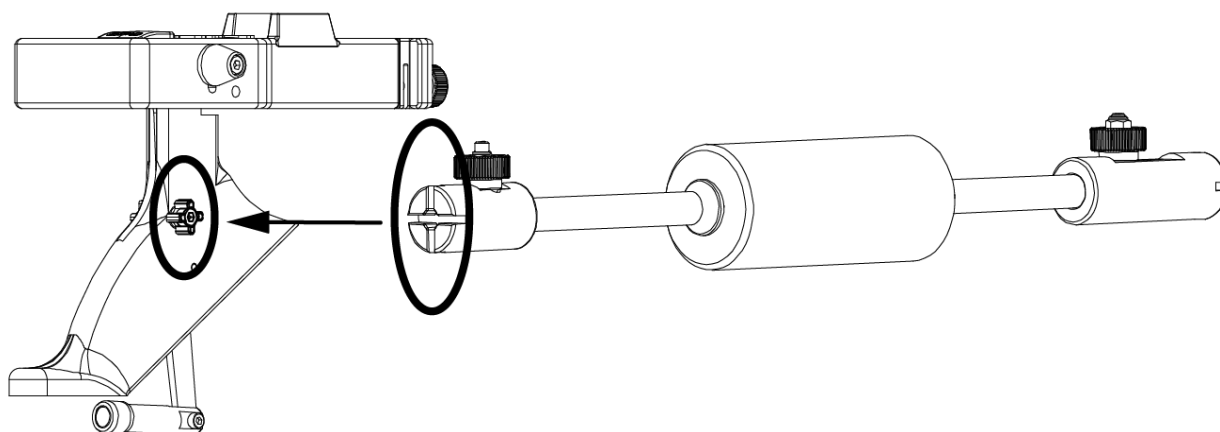

Fig 5 - Rod interlock point
- Rest the rod end with knob A on the dedicated socket **Fig 5 - a pag. 10**, and press for insertion